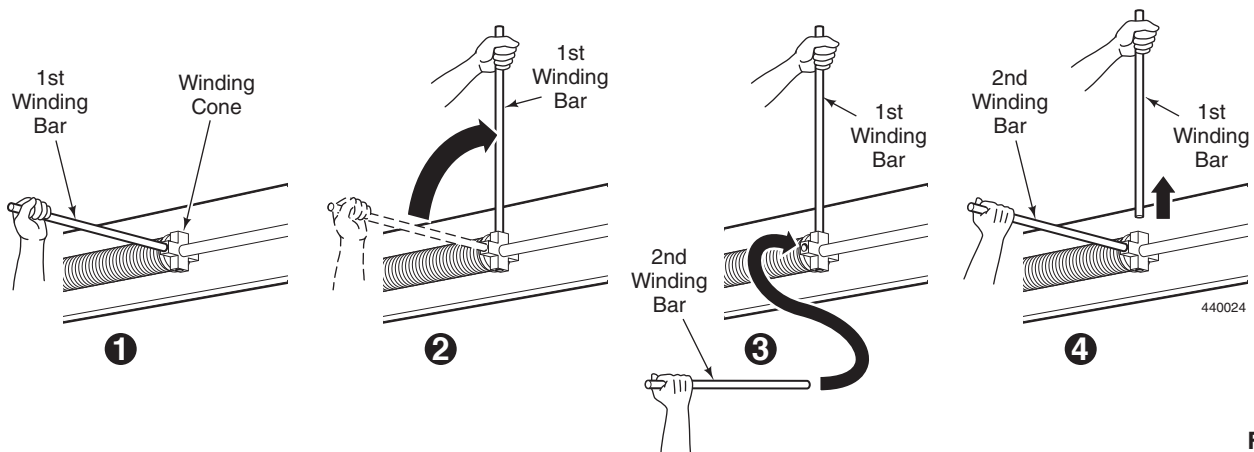

Figure 30
3. With one hand, insert one Winding Bar all the way into the hole of the Winding Cone and wind the spring up one-quarter turn. See *Figure 30*.